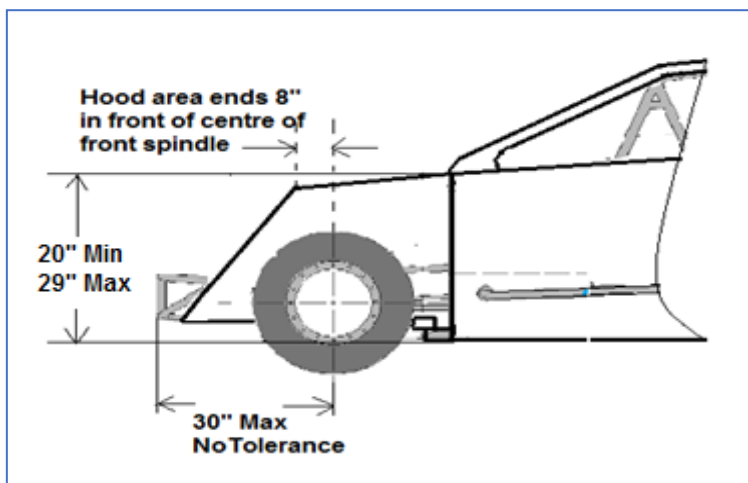

Figure 5
- **Hood** means the front section of the car body that extends from the front of the windscreen to 8” in front of the front ball joint (Figure 5&6).
- **Nose** means the front section of the car body that extends from the front of the hood to the front bumper (Figure 5).
**8.1.** Hood height (excluding air filter and any plastic or sheet metal cover used to protect the air filter) must not exceed 20" min or 29" max. The hood height is the vertical measurement from the bottom of the lowest point on the main frame rail to the top of the hood (*Figure 5*).
**8.8** Front of bumper may not extend more than 30 inches forward of spindle centre. Measurements to be taken from centre of either front spindle to the outside of front bumper (*Figure 5*).